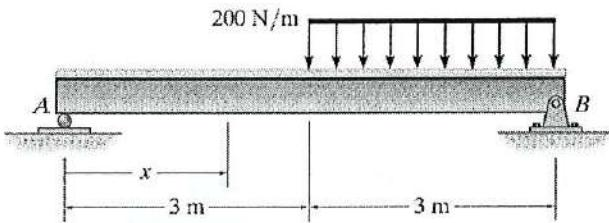

Figure Q3(a) / Rajah S3(a)
- b) A beam is loaded as shown in **Figure Q3(a)**. Draw the free body diagram of the entire beam.